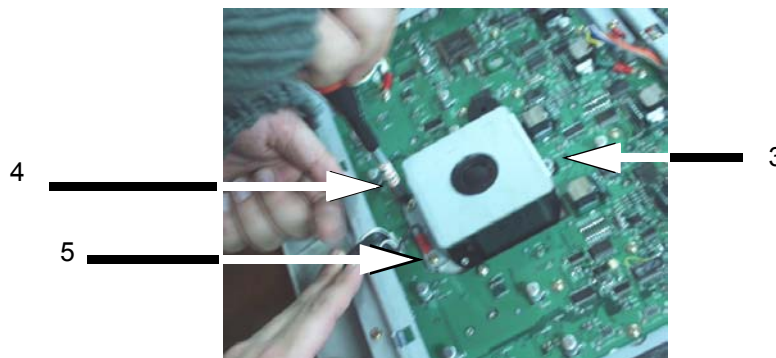

Figure 8-38 Unscrew 3 screws
- 2.) Unscrew three screws (3-5) to remove the Trackball Assy. Refer to section Figure 8-38 on page 26..